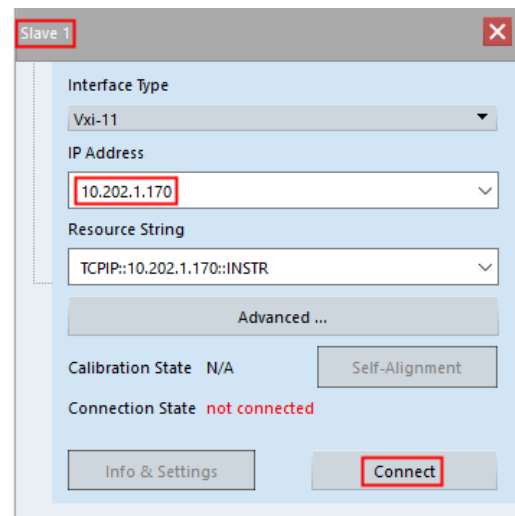

Fig. 4-3: Create a new instrument, e.g. NRQ6 slave 1
2. Enter a name for instrument identification, e.g. Slave 1. See Fig. 4-3
3. Enter the IP address of the connected instrument in the "IP Address" field. See Fig. 4-3. Alternatively, the domain name of the NRQ6 is also accepted in this configuration field. The domain name of the NRQ6 follows the naming convention like NRQ6-**<place holder>**, where **<place holder>** is the serial number of the NRQ6. To identify the IP address of the NRQ6, easily ping the domain name on the command prompt of the control PC as shown in Fig. 4-2.
4. Press "Connect". See Fig. 4-3. VSE is now going to create a remote connection to NRQ6